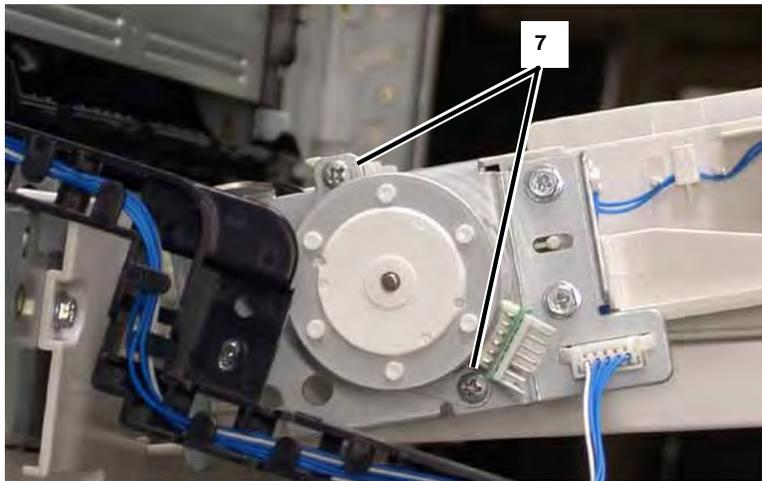

Figure 6 Removing Screws
7. Remove the Duplex Motor (2 Screws) (Figure 6).